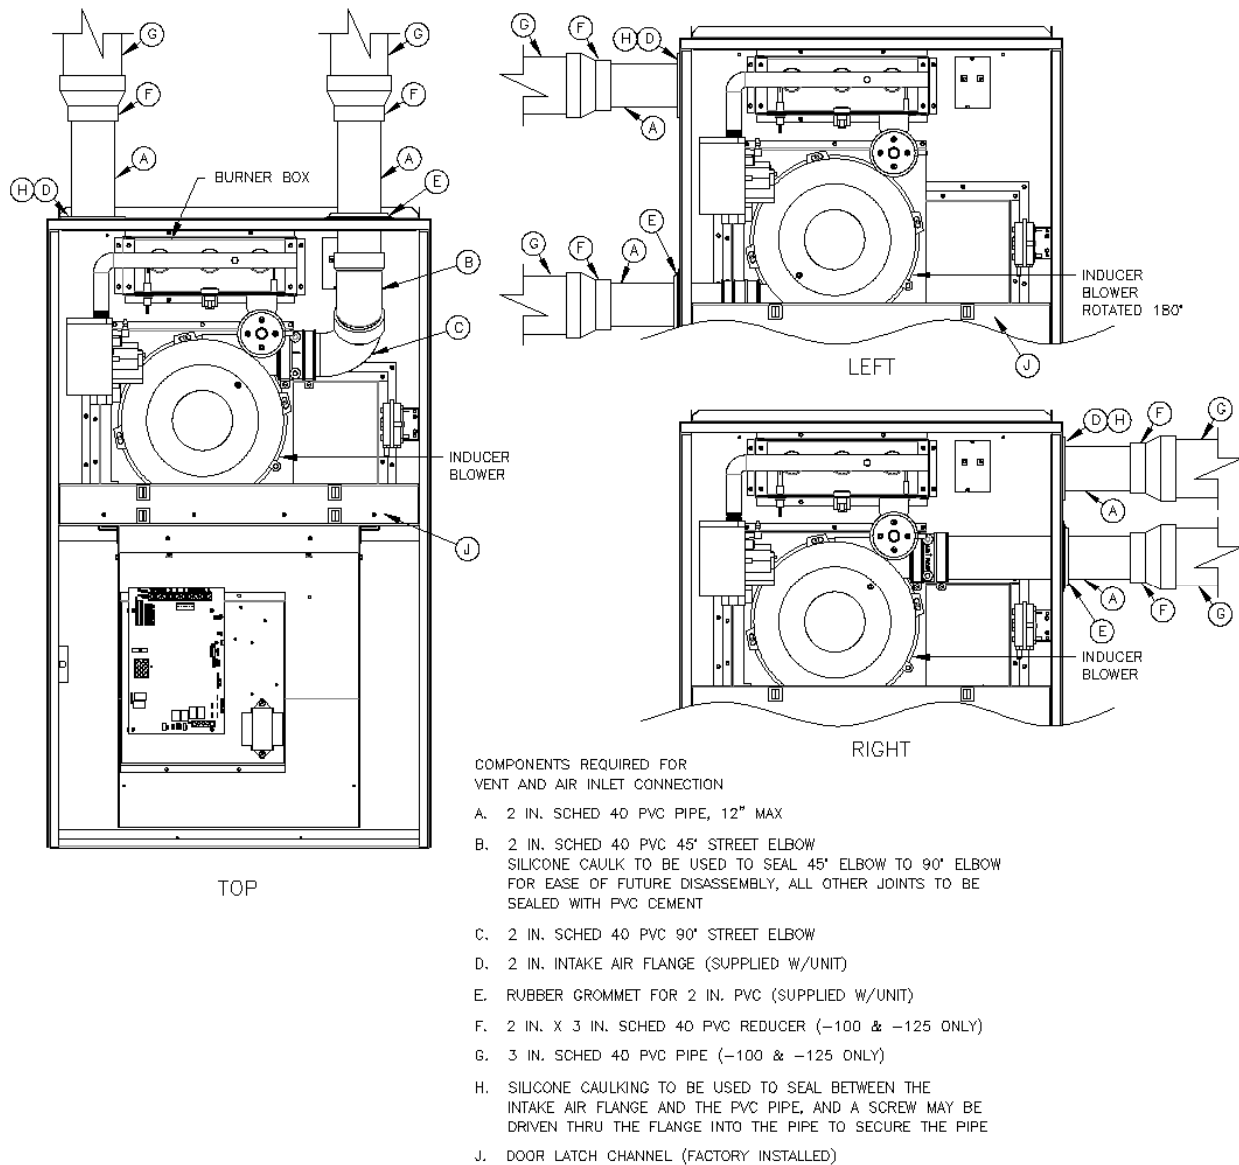

Figure 7: Required Exhaust Vent and Air Intake Piping
1. Figure 7 depict typical exhaust vent and air intake connections for the furnace model series CLHS1 / CLHX1, as well as a list of required parts to correctly install each system.
- a. The Exhaust Vent piping may exit the furnace thru either the top, left or right side as depicted in Figure 7. Upon selection of the location to exit the furnace, cut out the appropriate knock-out and install the rubber grommet provided. The grommet should be installed from the inside so that the insulation is captured between the flange of the grommet and the metal panel. All PVC connections inside the cabinet should be sealed with silicone caulk to enable easy disassembly for future repairs.
- a. The Combustion Air Intake piping may enter the furnace thru either the top, left or right side as depicted in Figure 7. Upon selection of the location to exit the furnace, cut out the appropriate knock-out and install the Intake Air Flange provided using 4 self-tapping screws.